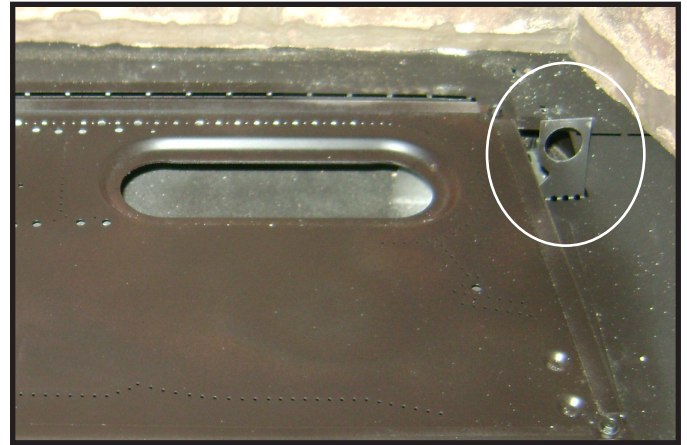

Figure 4.11 Grate Tab
9. Bend down grate tab at the right of burner assembly. Assembly will slide out to the right. See Figure 4.11.